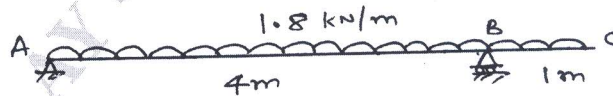

Fig.Q6(b)
- b. Find the deflection of the free end of the overhanging end of a Simply supported beam of rectangular cross-section $80 \text{ mm} \times 100 \text{ mm}$. $E = 210 \text{ GN/m}^2$ [Refer Fig.Q6(b)].